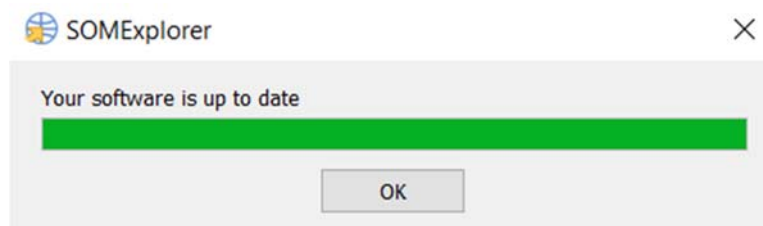

Figure 24 – Message about no need to update
8.4 If the software does not require updating, the message shown in Figure 24 will be displayed.